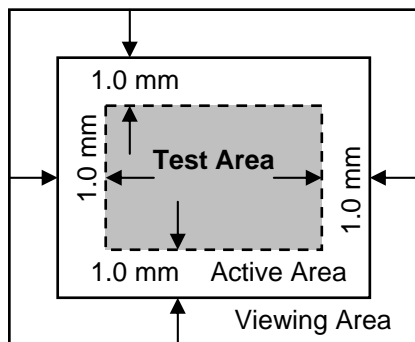

Fig 10.1
- Test area is shown in Fig. 10.1